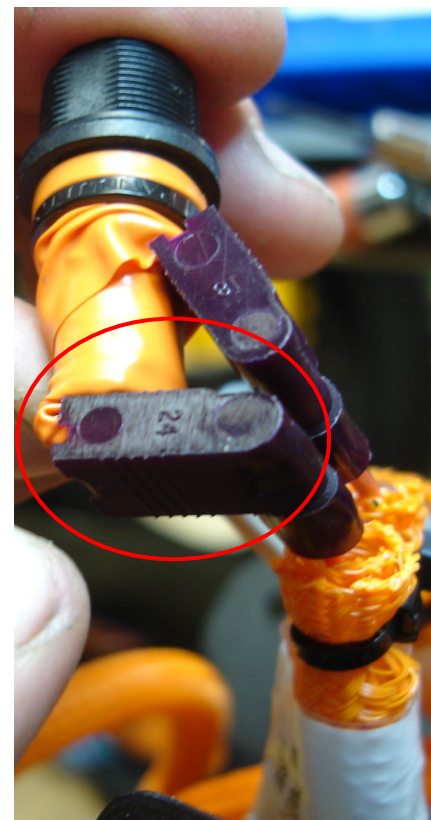

Figure 23
15. **Bend** low power B- fuse terminal 90° as in FIGURE 23. This is done for clearance. Mount fuse in location per FIGURE 24. Reinstall fuse nut onto fuse as in FIGURE 25.